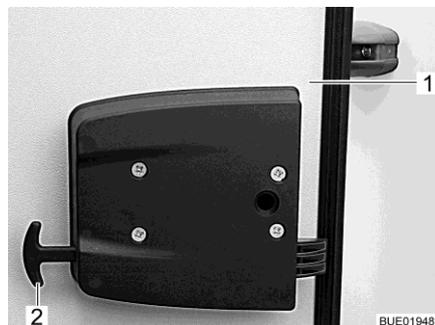

Fig. 77 Garage flap emergency release
- Pull both handles of the emergency release (Fig. 77,2).
- Push the garage flap (Fig. 77,1) outwards.